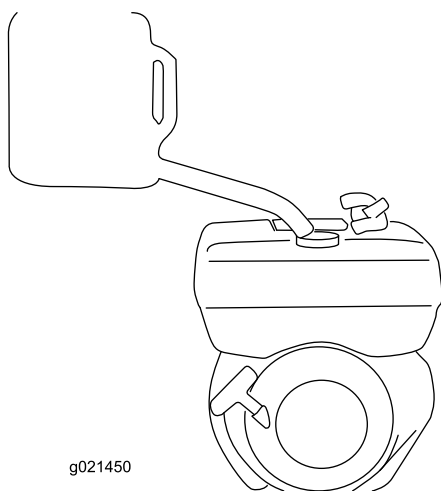

Figure 10
4. Add diesel to the fuel tank. (Figure 10).